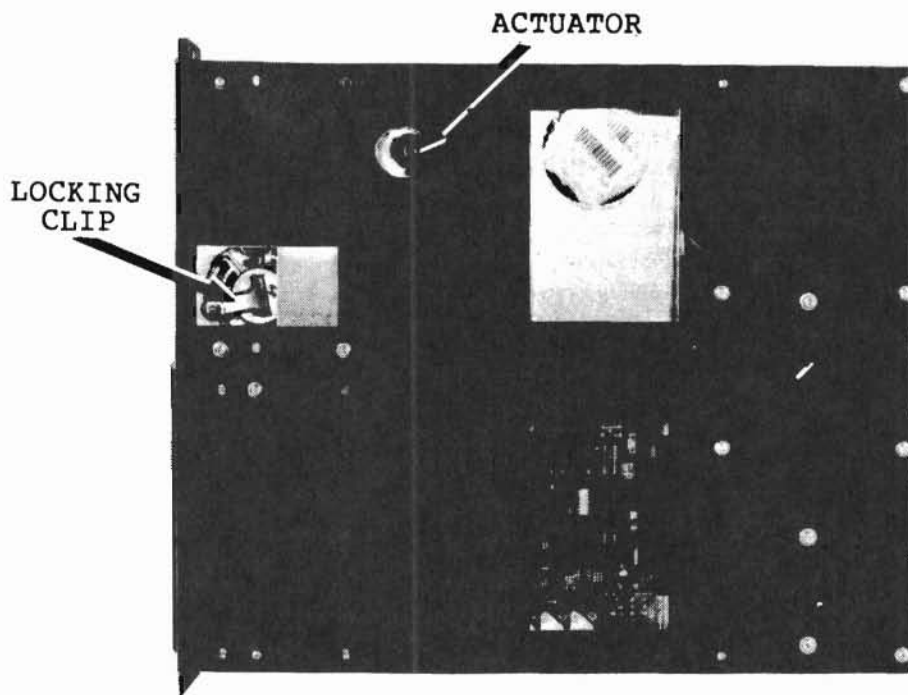

Figure 1-2b. ACS8000-12, ACS8000-14 with Bottom Plate Removed and Locking Clip in Shipping Position
- g. Unlock actuator by rotating the actuator lock counter clockwise as far as it will go to the "RUN" position (approximately 1/2 turn) DO NOT force the turn. See Figure 1-2b.
- g. Rotate the locking clip until engaged into pulley. Refer to Figure 1-2b.